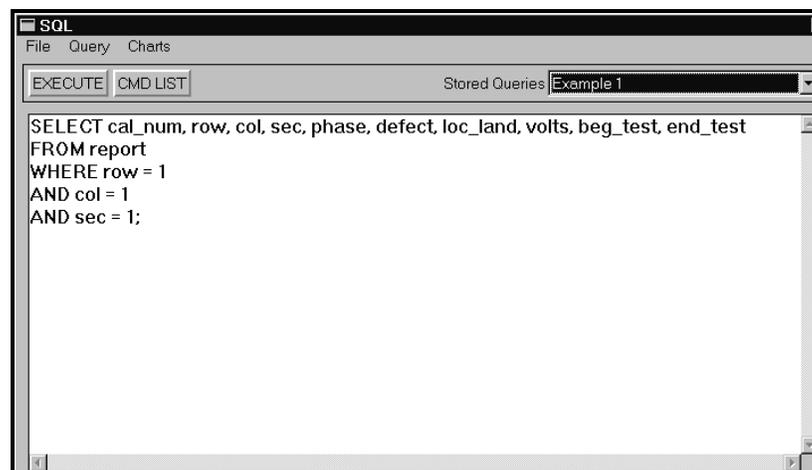

Figure 3-84. Restored Query
- Stored Queries Menu lists the queries stored to the database using Query > Store or Query > Store As explained above. As seen in Figure 3-84, choosing the query name in the pull-down menu will cause the query to appear in the SQL Area. If edits are done to the query and you wish to save it under the same name, use Query > Store. If you wish to store it under a distinct name, use Query > Store As. See Query > Store for an explanation of *stored vs. saved* queries.